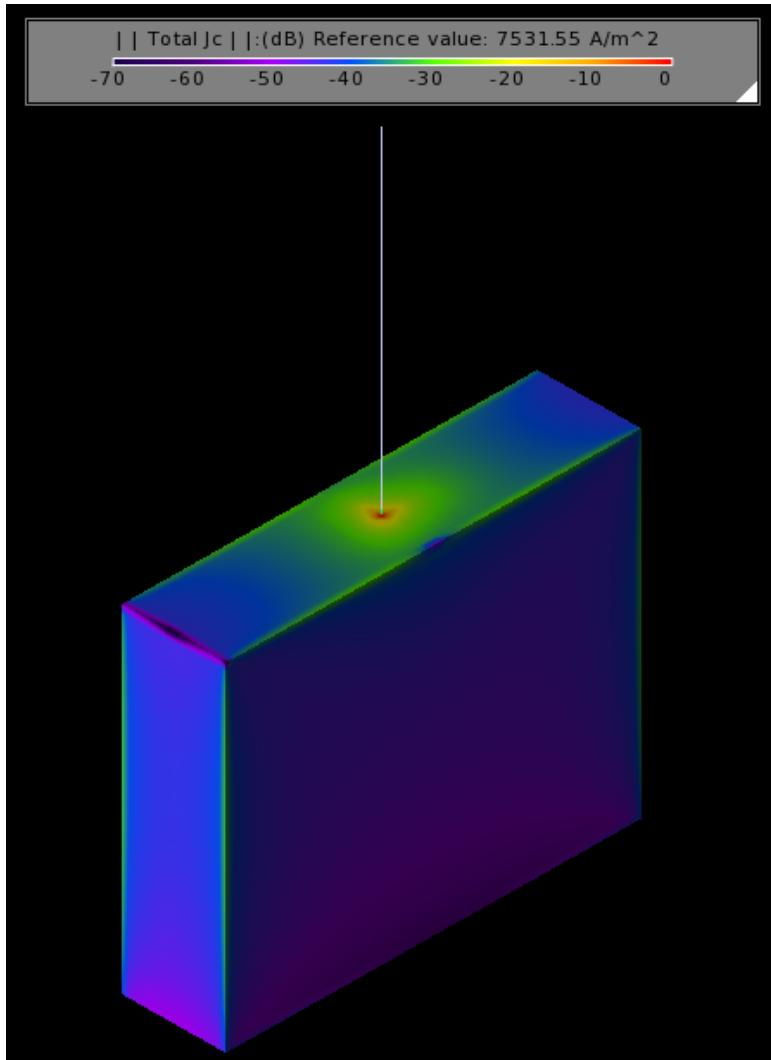

Figure 6.25: Viewing the conduction current plot for the monopole project
- Press APPLY to finish editing the plot. You should see the conduction current data on the surface of the box, as seen in Figure 6.25.